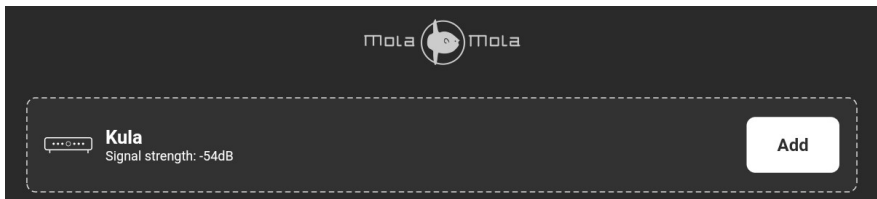

Figure 6: Discovered devices.
2. Click on the Add button of the device you want add (figure 6).